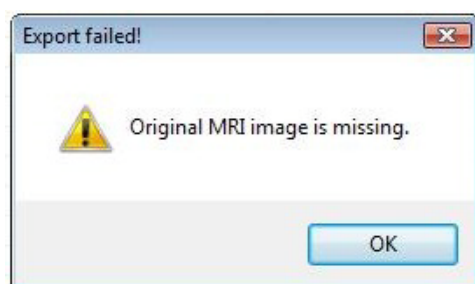

**Fig. 148.** MRI landmarks are missing
**Situation:** If there are landmarks missing, the following dialog is displayed (Figure 148):